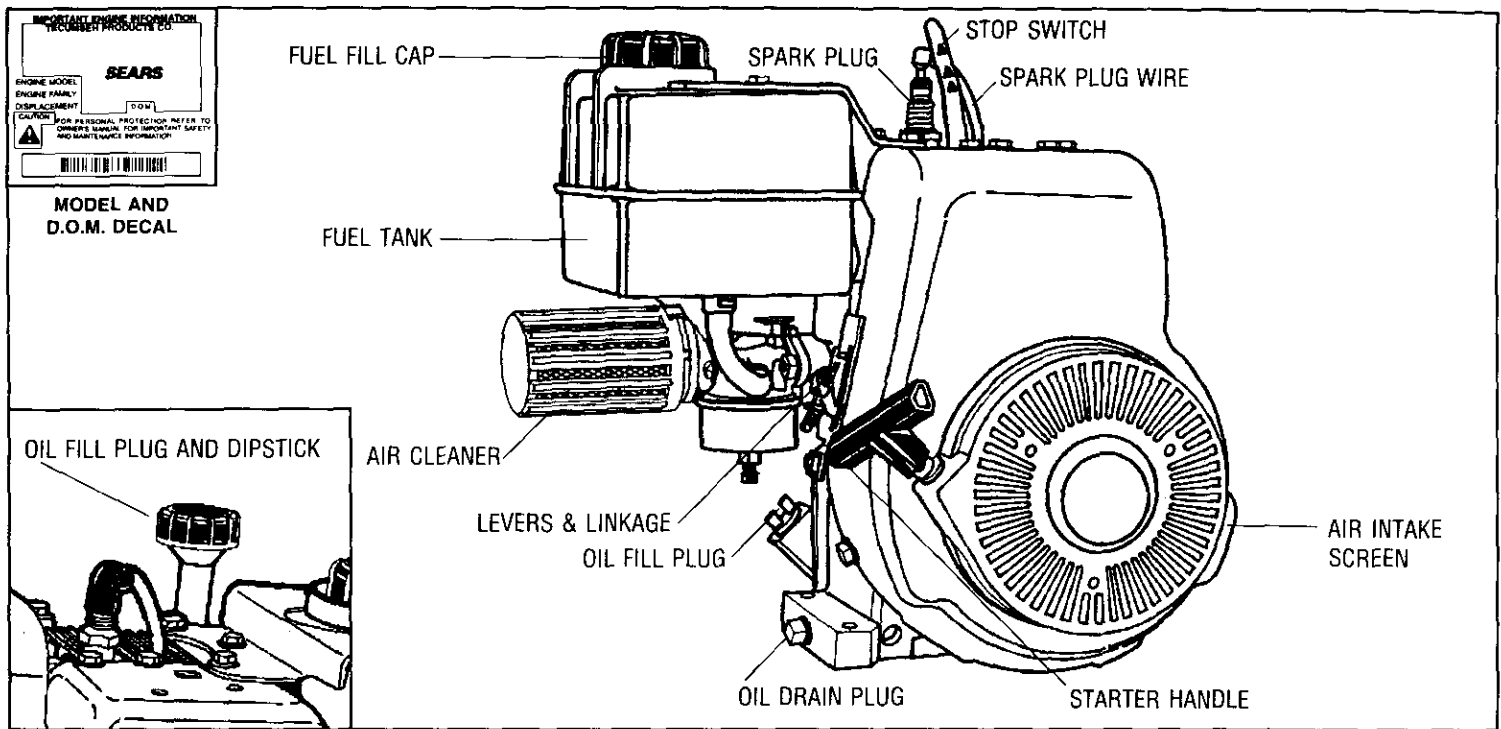

Figure 1
B. Clean area around oil fill plug (see Figure 1).
- B. Be sure spark plug wire is attached to spark plug (see Figure 1).
- C. Be sure stop switch next to spark plug is not contacting spark plug (see Figure 1).
- ① ENGINE WITH PRIMER**
- 3) a) **RECOIL STARTERS:** Grasp starter handle (figure 1) and pull rope out slowly until you feel drag. Let rope rewind slowly. Pull rope with rapid, full arm stroke. Return rope slowly to original position. **NOTE: If engine fails to start after three pulls, repeat step 2 above.**
- ①** Move equipment control or any ignition stop switch on engine to STOP or OFF (see equipment manufacturer's instructions).
- ②** Push stop switch (if so equipped see Figure 1) located next to spark plug on engine against spark plug and hold it in this position until engine is completely stopped.
- ③ AFTER ENGINE IS STOPPED:**